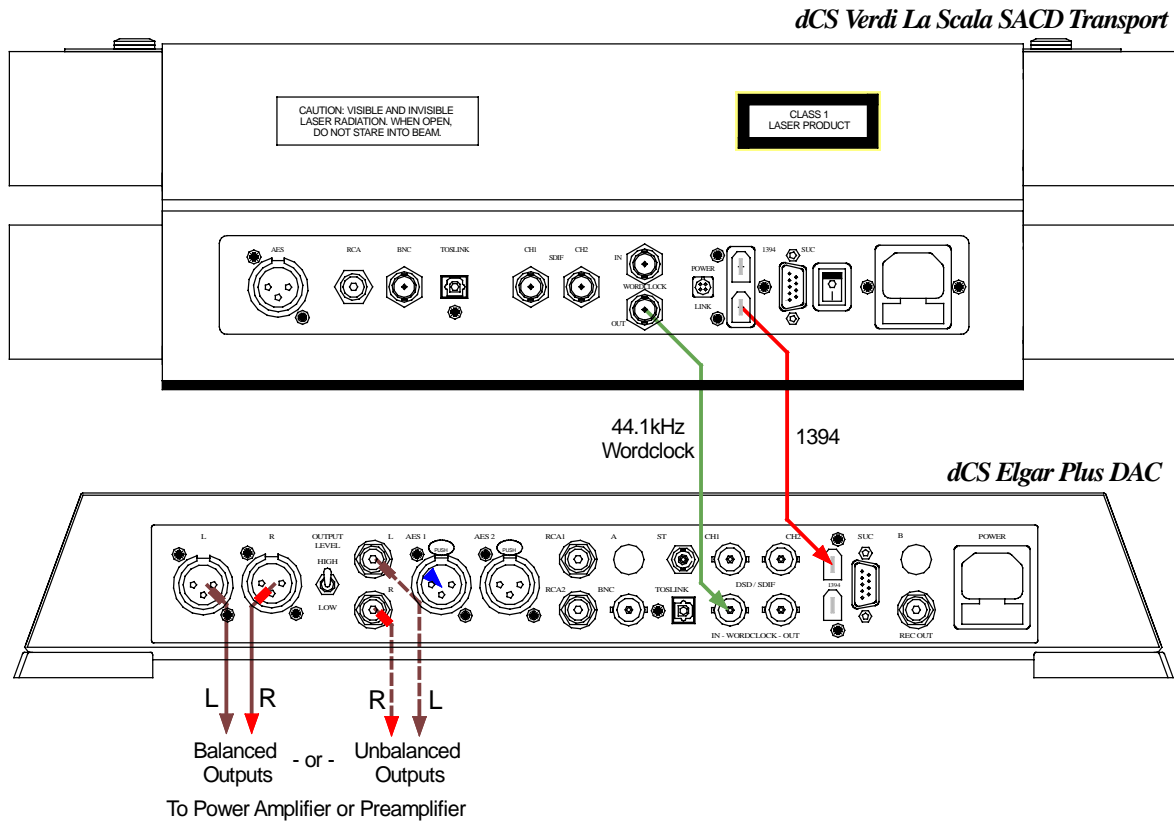

Figure 1 – Connecting *La Scala* to *Elgar Plus*
This set-up is shown in **Figure 1**.
*Note that the Wordclock connections are different to those in **Figure 1**.*